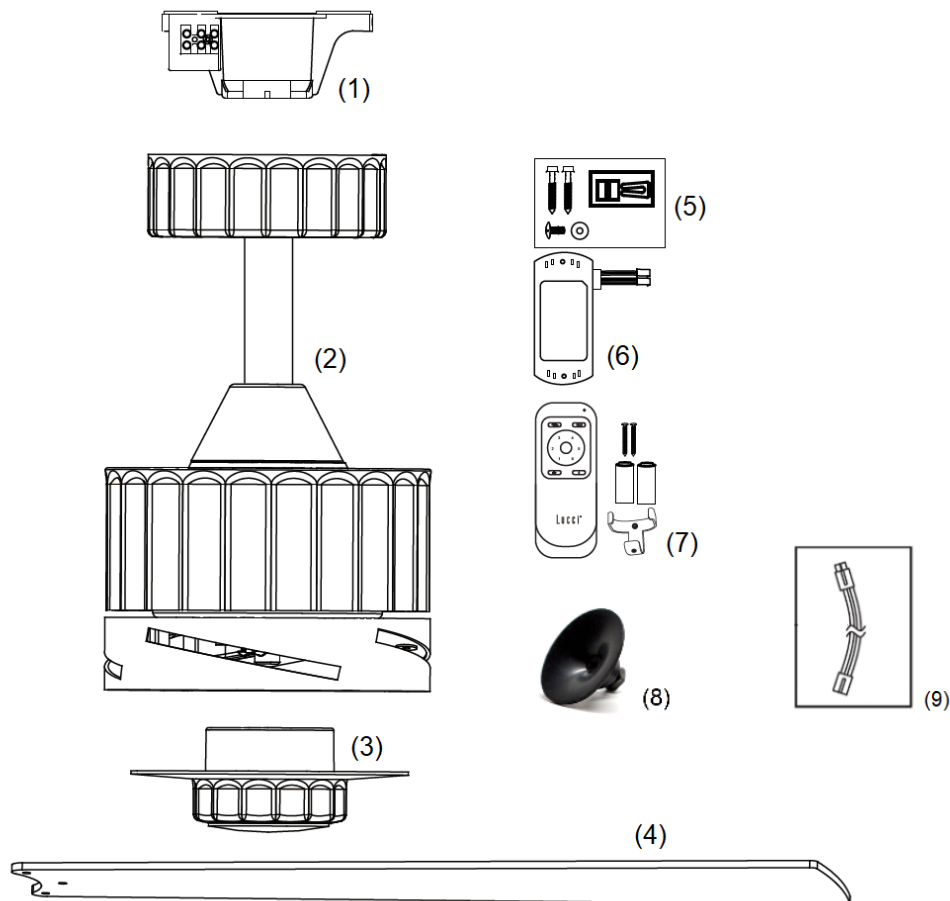

Fig. 1
Note: If a down rod extension is used, the Light kit extension cable \(item 9, of Fig.1\) is required.